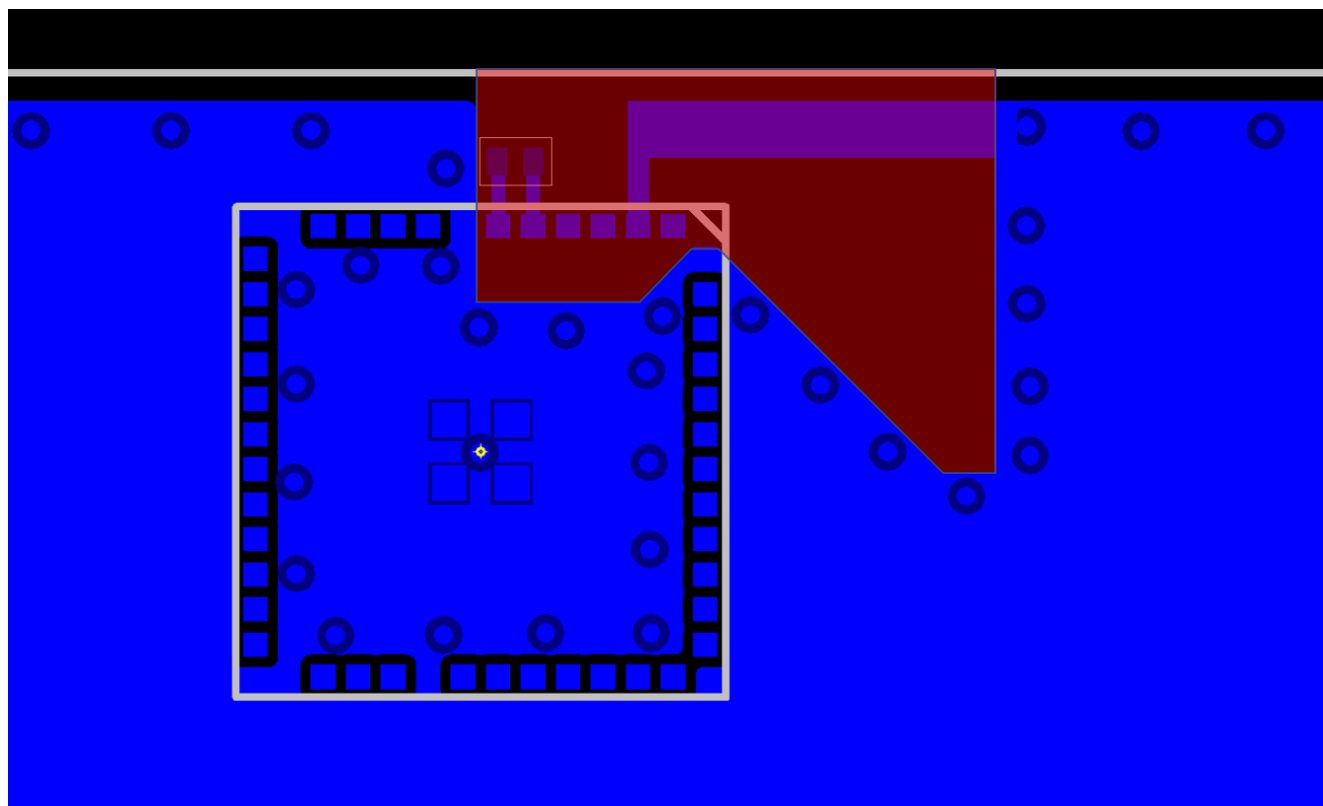

Figure 7.3. Antenna Clearance in Inner and Bottom Layers
- Make a cutout in all lower layers aligned with the right edge and the bottom edge of the integral loop antenna as indicated by the red box in Figure 7.3 Antenna Clearance in Inner and Bottom Layers on page 39.
- Generally ground planes are recommended in all areas of the application board except in the antenna keep-out area shown in Figure 7.3 Antenna Clearance in Inner and Bottom Layers on page 39.